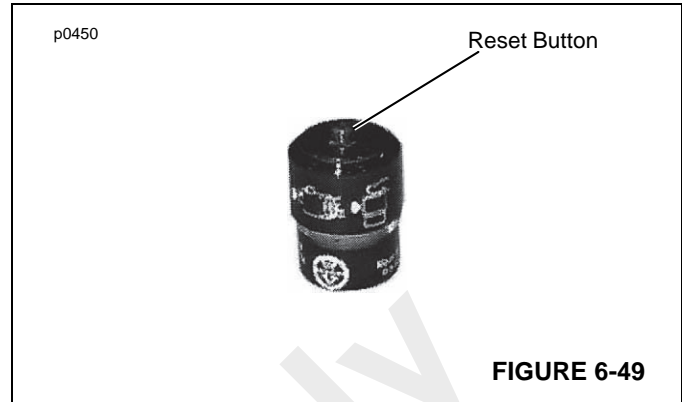

FIGURE 6-49
10. Reset the air cleaner restriction indicator by pushing in the reset button (Figure 6-49).